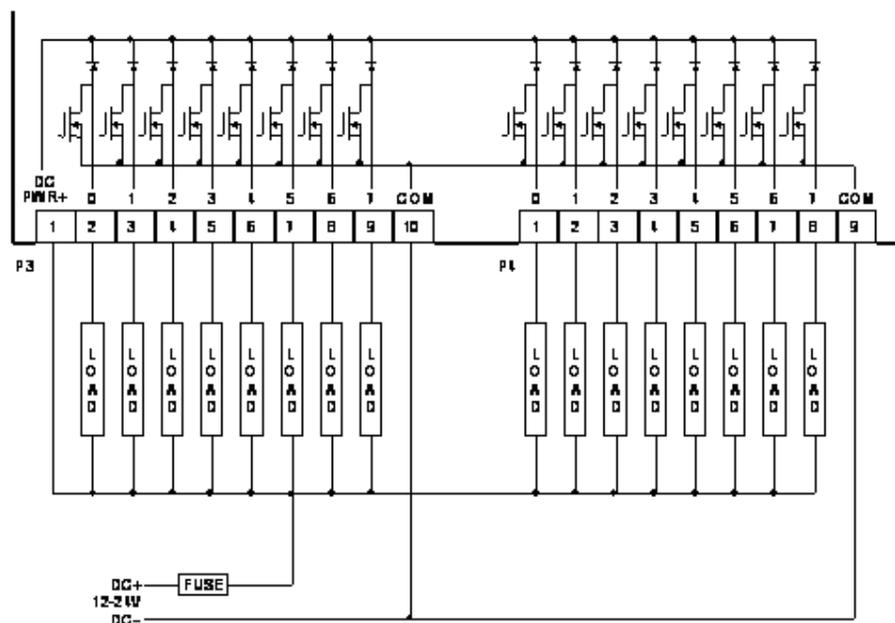
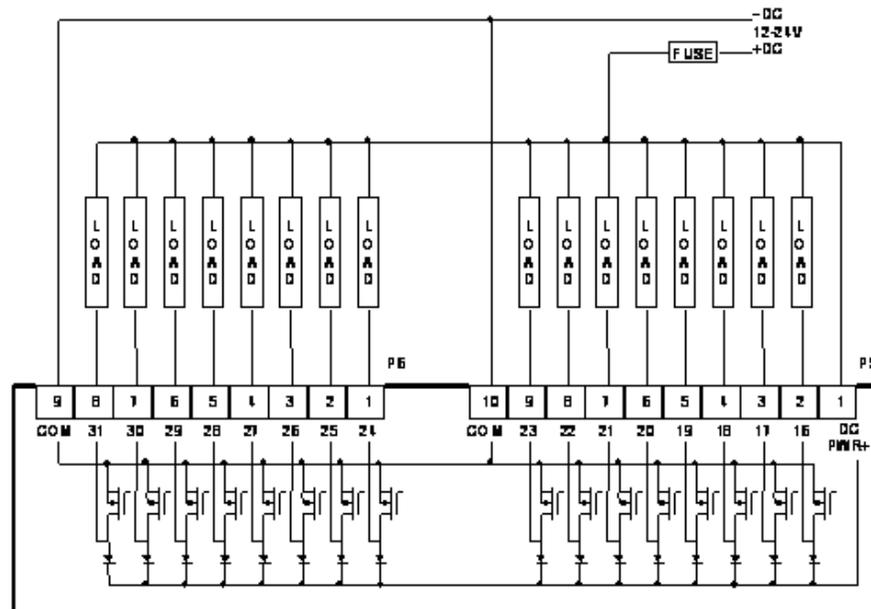

Figure 1: Typical Field Wiring Digital Outputs 0-15
Figure 2: Typical Field Wiring Digital Outputs 16-31
The 5411 module provides 32 DC outputs. The outputs are sinking MOSFETs. The loads are connected between a 12 to 24Vdc power source and the digital outputs. The outputs are divided into two groups of 16. Each group of 16 loads shares a common power source. This is the same power source that will provide power to the 5411 module. See **Figure 1: Typical Field Wiring Digital Outputs 0-15** and **Figure 2: Typical Field Wiring Digital Outputs 16-31**. Controller, modem and I/O modules use screw termination style connectors for termination of field wiring. They accommodate solid or stranded wires from 22 to 12 AWG.
Refer to **Figure 1: Typical Field Wiring Digital Outputs 0-15** and **Figure 2: Typical Field Wiring Digital Outputs 16-31** for Digital Output wiring examples.
- Inductive loads require EMF suppression diodes. There are suppression diodes built into the 5411. For these diodes to be effective the inductive loads are connected to the DC power terminal on the 5411 module as shown in **Figure 1: Typical Field Wiring Digital Outputs 0-15** and **Figure 2: Typical Field Wiring Digital Outputs 16-31**.